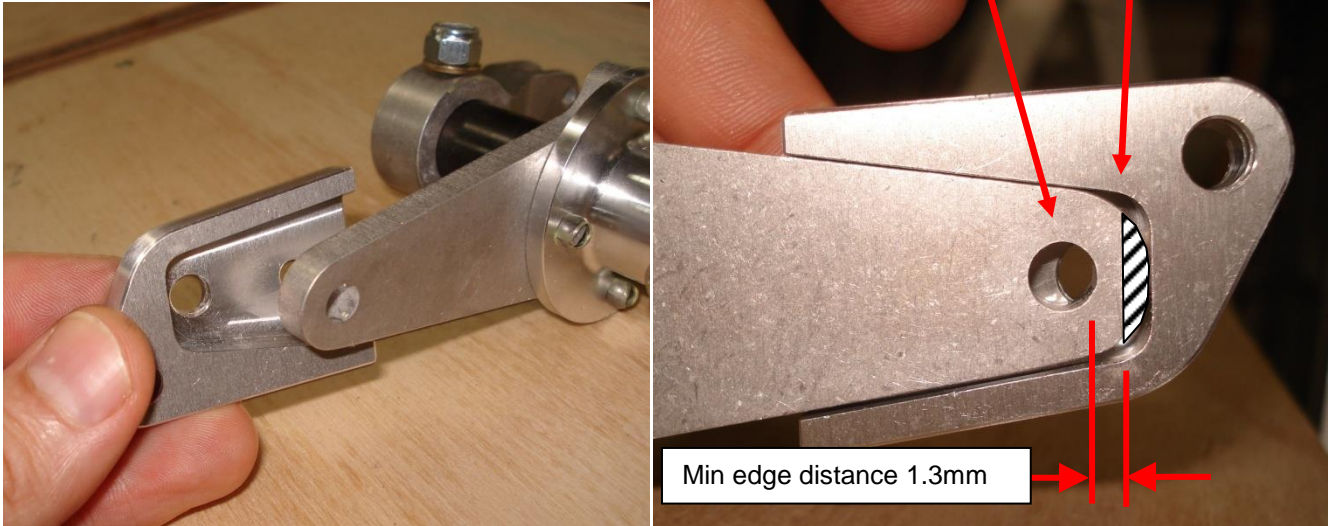

Figure 4 – Fitting Adaptor to Drive Arm
- Apply the new drive adaptor to the existing internal flap drive arm from the outboard side – it will be obvious how much material must be removed from the existing arm to fit the adaptor. Figure 4 (right) shows this. Carefully remove this material, removing just enough so that the extension slides onto the arm far enough to align the bolt holes and to fit snugly around the arm. De-burr the tip. Note the minimum edge distance shown in Figure 4 (right).